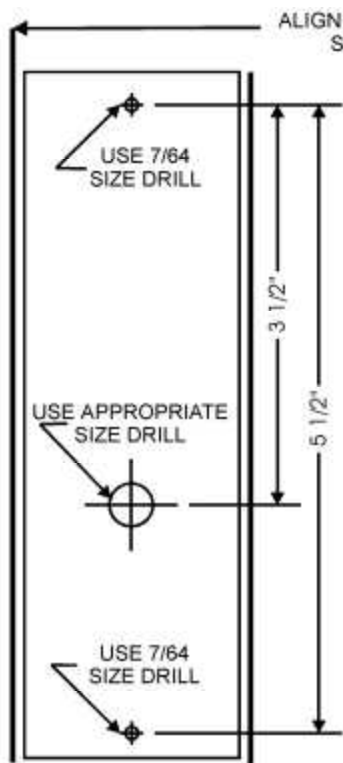

FIGURE 1: HOLES LOCATION
1. Position the reader (item b in the Parts List) at the desired location. Observe ADA height requirements. Drill two 7/64 (0.109)-inch holes for the reader screws, and one clearance hole for the cable (see Figure 1).